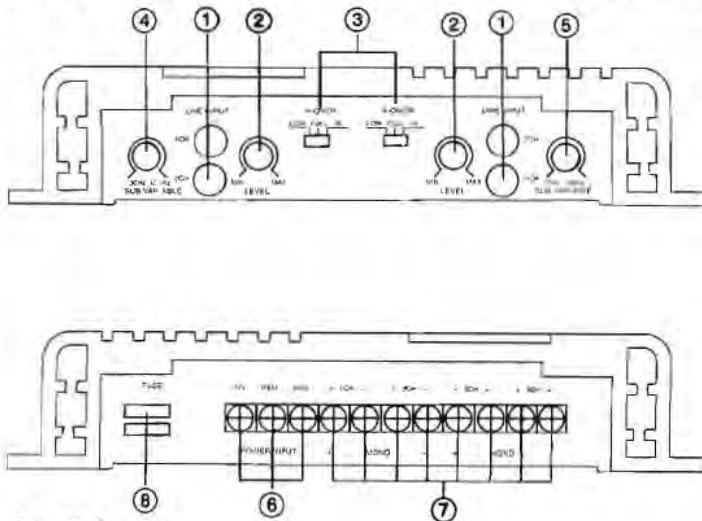

Figure 1
- Signal Input Connections. Left and Right Line Level Input Signals are applied to the Line In Phono Jacks (See Figure 1, item 1). These are normally taken from the Line Out jacks of the indash radio or intermediate signal processor such as a passive equalizer. Extension cables with phono plugs on both ends are required. These can be purchased in a variety of lengths at any audio shop at nominal cost.
The exception to this rule occurs when you use the Low Pass and High Pass Filter sections (Items 4 in Fig 1) to form a true Crossover system. This is the most common configuration so it is important that you become aware of it.
FINAL STEPS (See Figure 1)